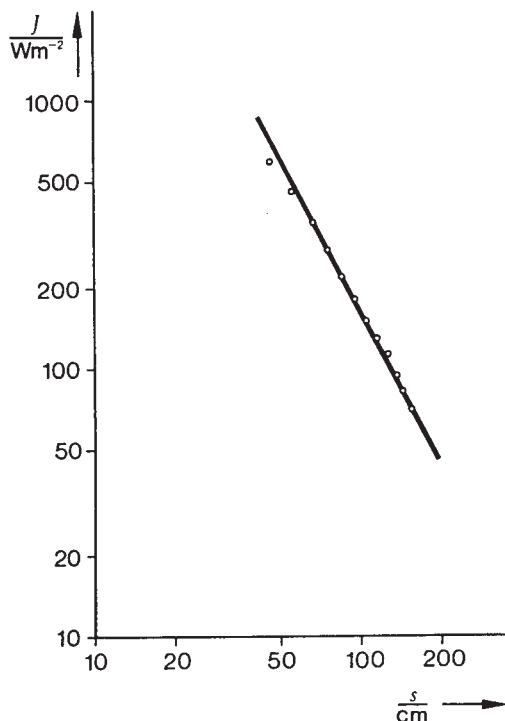

Fig. 5: Light intensity  $J$  at distances  $s$  normal to the light source.
2. Using the measured values in Fig. 5 we obtain the relationship between the light intensity and the short-circuit current and no-load voltage measured at various distances away from the light source (Fig. 6).